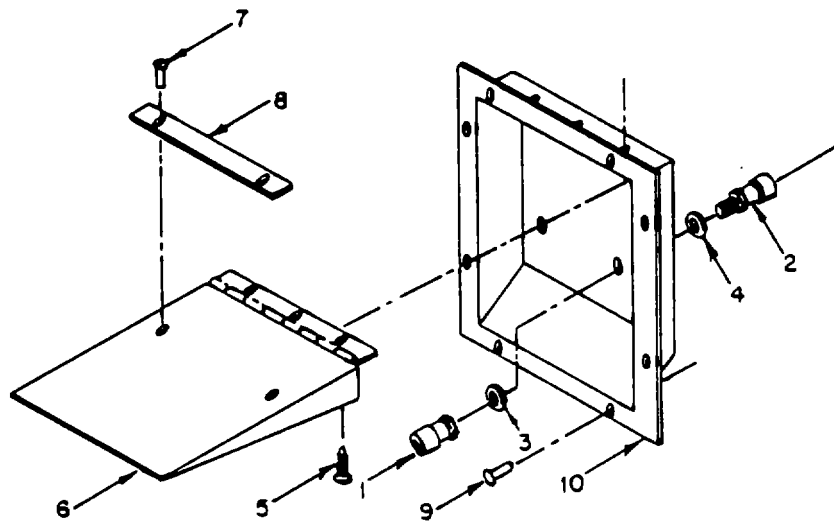

Figure 4-24. Telephone Binding Post Assembly
(1) Inspect binding post assembly hinged cover (6) on rear wall roadside for damage and ease of movement.
(2) Inspect binding posts (1) for freedom of movement and correct return to the spring loaded OUT position.
(3) Inspect binding post assembly for cracks and security of mounting.
b. Replace. (See Figure 4-24.)
(1) Unscrew exterior posts (1) from interior post studs (2), and insulating washers (3 and 4) and remove posts and washers. Removal procedures are identical for each binding post assembly.
(2) Remove screws (5) and hinged cover (6).
(3) Remove rivets (7) of nomenclature plate (8) by drilling or chiseling off heads and remove plate.
(4) Remove rivets (9) by drilling or chiseling off heads.
(5) Remove RTV sealant and receptacle frame (10) from shelter wall.
(6) Apply RTV sealant (2, Appendix E) to frame lip and install receptacle frame (10) and secure with rivets (9).
(7) Install nomenclature plate (8) and secure with rivets (7).
(8) Install hinged cover (6) and secure with screws (5).
b. Replace. (See Figure 4-24.) - Continued
(9) Install interior binding posts (2) from inside through insulating washer (4), then through shelter wall.
(10) Thread exterior binding posts (1) onto interior post studs (2) using insulating washer (3) between shelter wall and exterior binding post. Modify a new interior post by cutting off the threaded stud. Locate center and drill a No. 21 size hole 0.5 in. (1.27 cm) deep. Tap hole with 10-32 U.N.F. bottom tap.
4-28. TELEPHONE BINDING POST ASSEMBLY. - Continuedc. Repair. (See Figure 4-24.)